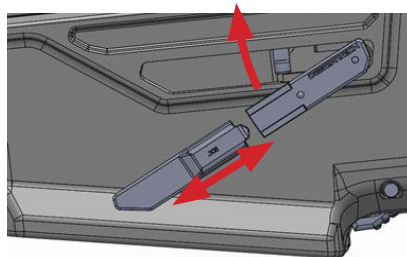

Fig. f-3
- Press the .223/.300 BLK magazine conversion bar onto the magazine release main bar and rotate the magazine catch back into place. (Fig. f-3)